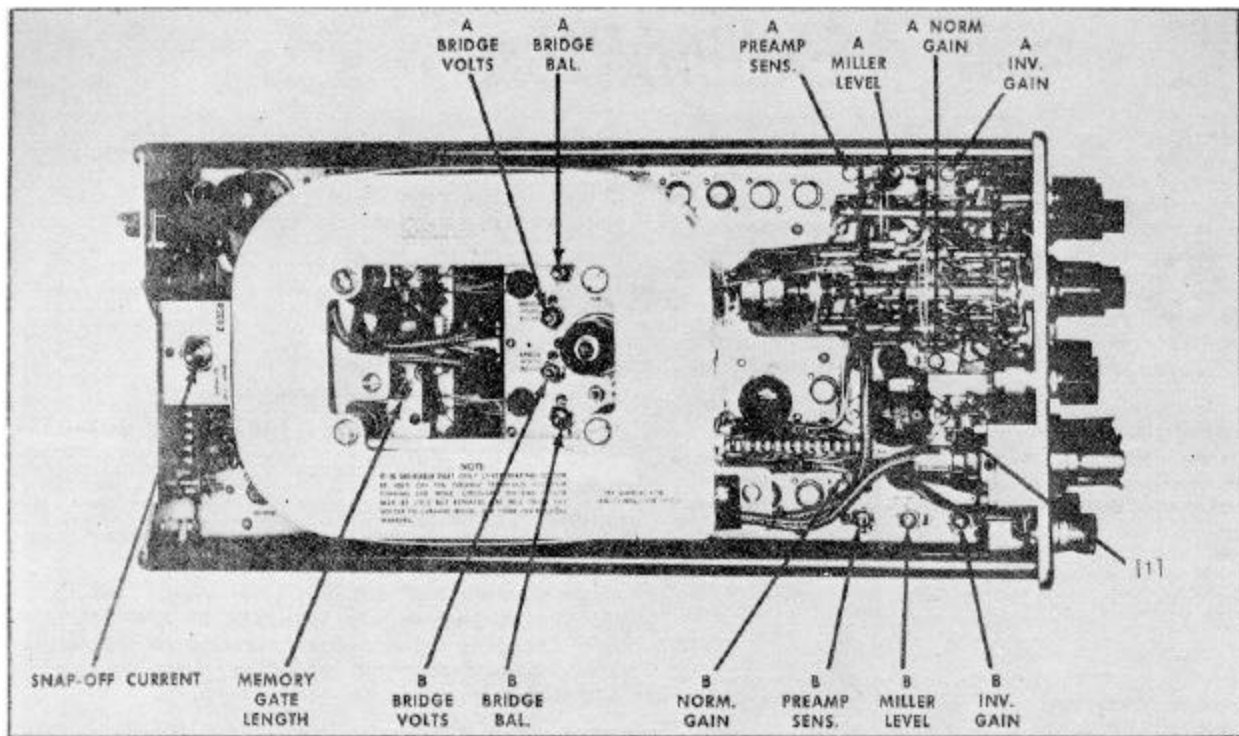
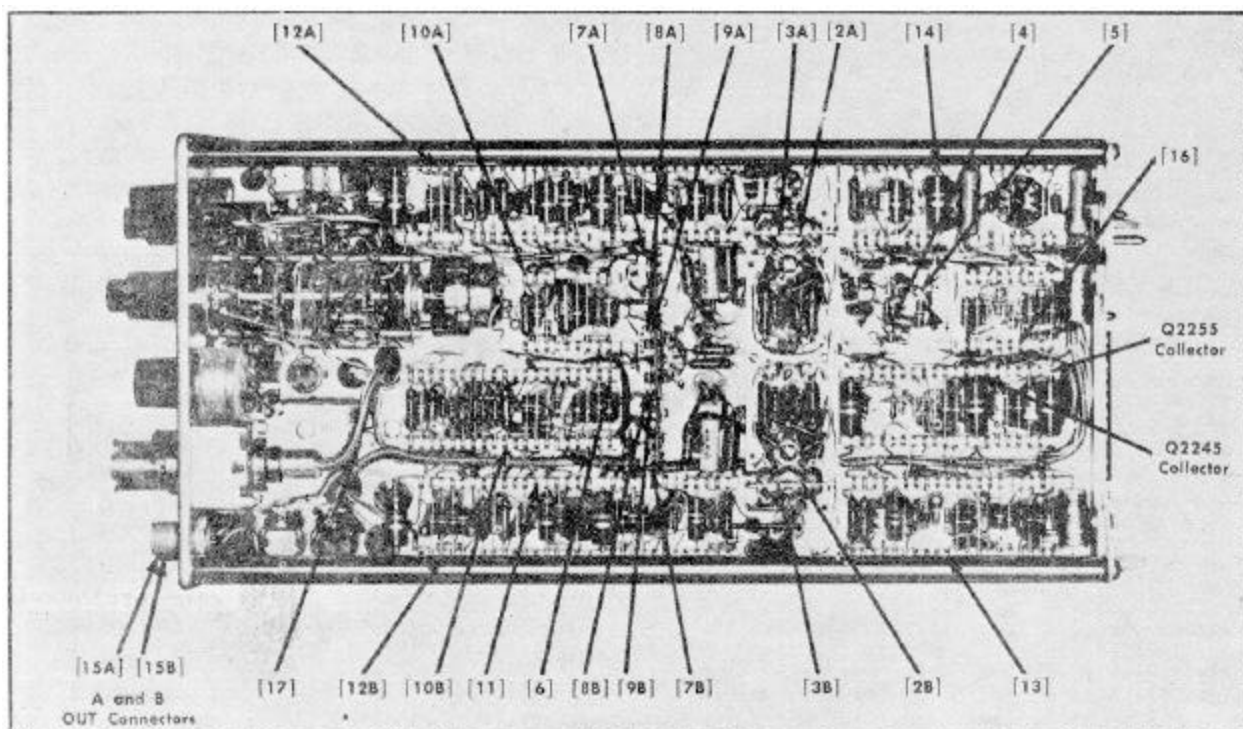
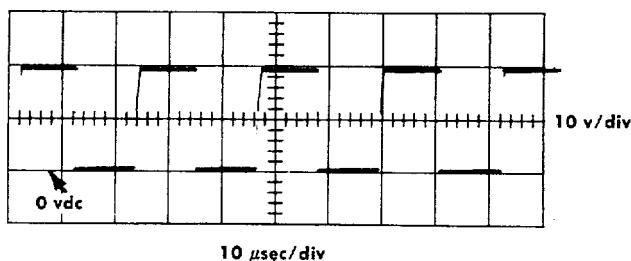

Fig. 6-1. Left-side view showing test point and internal adjustment.
Fig. 6-2. Right-side view showing test points.
Fig. 6-3. Signal collector of Q2245 or Q2255.
Internal adjustments and test points are shown in Figs. 6-1 and 6-2.
The location of each adjustment is shown in Fig. 6-1; the location of the test points is shown in Fig. 6-2.
3. With the test oscilloscope, display the signals at the collectors of Q2245 and Q2255 (Fig. 6-2). The signals should resemble the waveform shown in Fig. 6-3. Vary the RECOVERY TIME control of the Type 3T77; repetition rate of the displayed waveforms should vary. Return both NORM.-INV. switches of the Type 3S76 to INV.